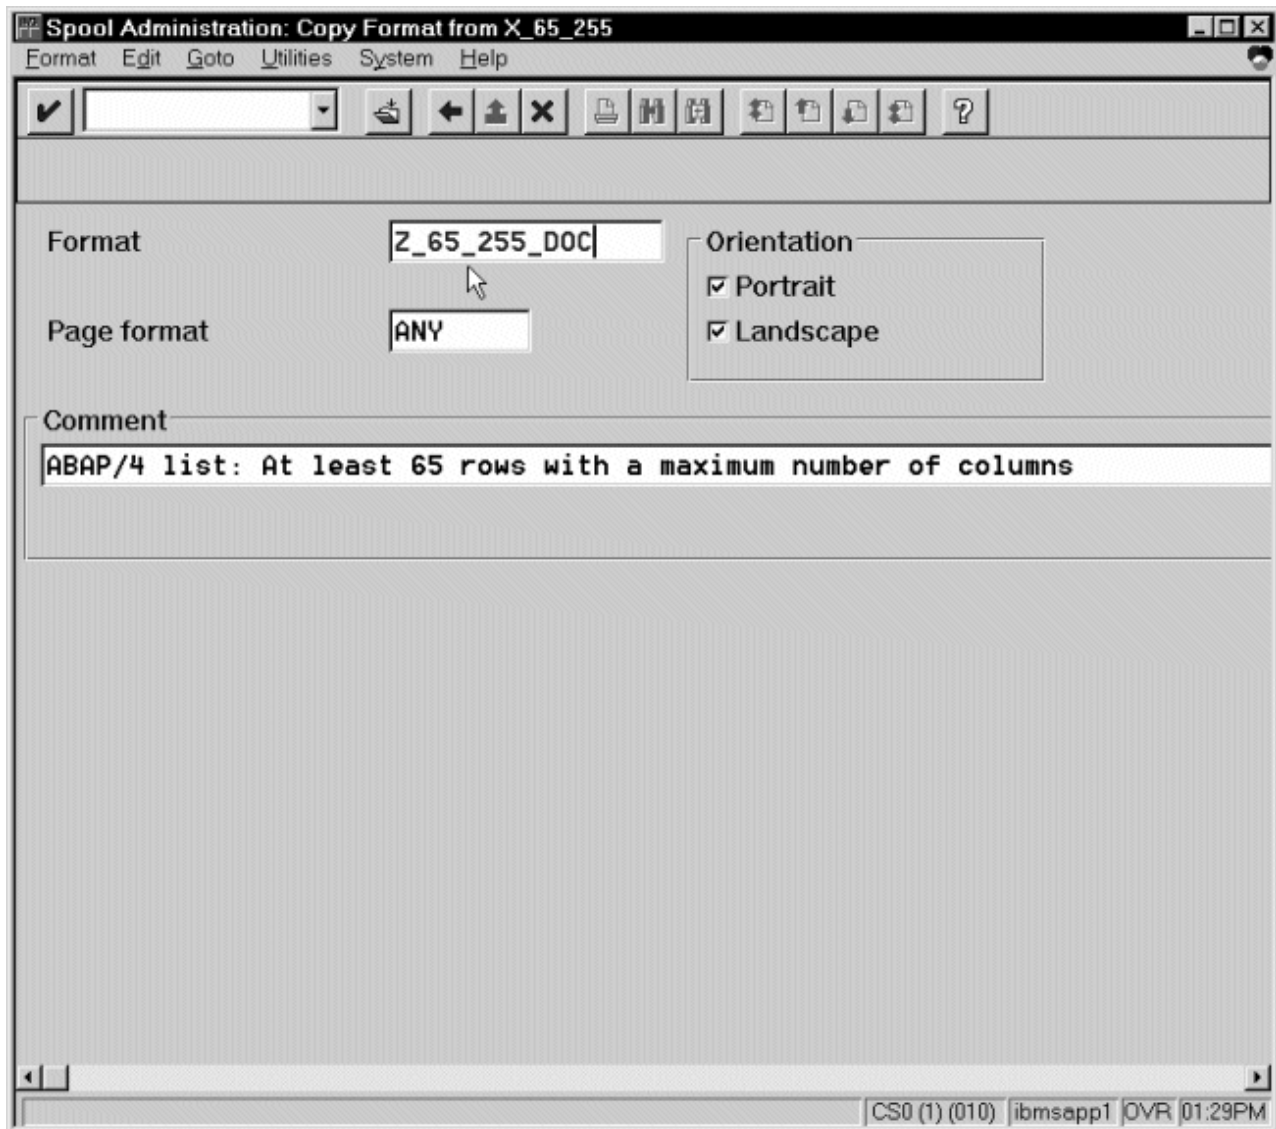

Figure 52. Spool Administration: Copy Format from X_65_255 window
4. From the **Spool Administration: Copy Format from X_65_255** window, specify the name of your customized Format with the naming convention of *Z_number-of-rows_number-of-columns_more-identifying-text* as shown in Figure 52 on page 127: